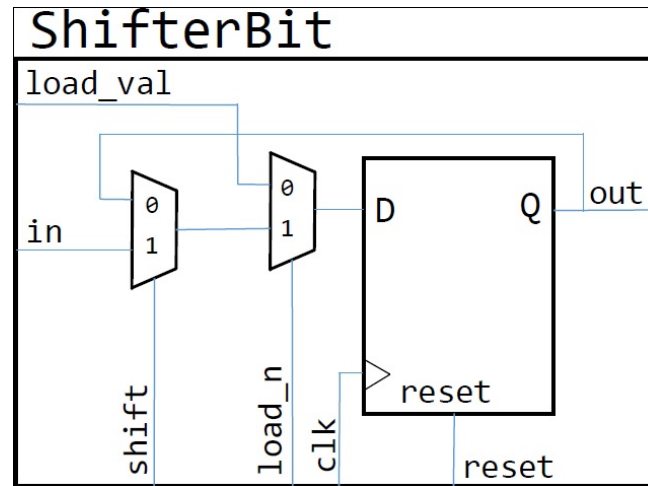
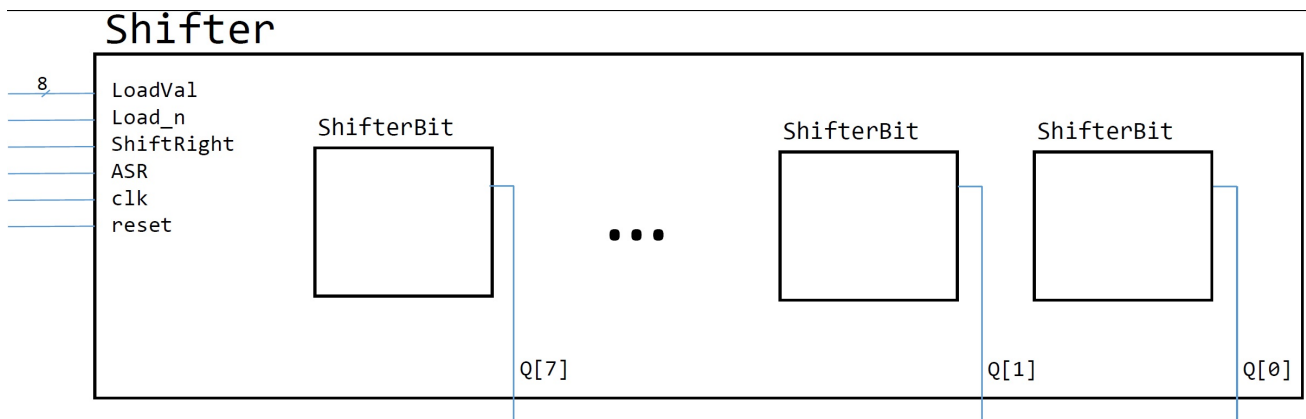

Figure 4.4: Single-bit shift-register
Figure 4.5: 8-bit shift-register of Part III. **None** of internal connections are shown here.
A shift register is a row of flip-flops where each flip-flop moves its contents to the next flip-flop in the row on the rising clock edge. Figure 4.4 shows one bit of this shift register. It contains a positive edge-triggered flip-flop that stores the ShifterBit's current value and two multiplexers that determine the source of the ShifterBit's next value.
To create an 8-bit shift-register, you will need eight instances of the circuit in Figure 4.4. Connect these together to design your 8-bit shift-register with optional arithmetic shift and parallel load as shown in Figure 4.5.
3. The *ShiftRight* input which feeds into the *shift* input of all eight instances of the ShifterBit circuit in Figure 4.4.
For the leftmost ShifterBit, you should design a circuit that will perform sign-extension when the signal *ASR* is high (arithmetic right shift) or load zeros if *ASR* is low (logic right shift). This special circuit is not shown in Figure 4.5.
1. What is the behaviour of the 8-bit shift register shown in Figure 4.5 when *Load\_n* = 1 and *ShiftRight* = 0? Briefly explain in your prelab.
2. Draw a schematic for the 8-bit shift register shown in Figure 4.5 including the necessary connections. Your schematic should contain eight instances of the one-bit shifter (i.e. the ShifterBit) shown in Figure 4.4 and all the wiring required to implement the desired behaviour. Label the signals on your schematic with the same names you will use in your Logisim circuit.
3. In a file called `lab4_part3.circ`, add a subcircuit called `shifter_bit`. Starting with the built-in positive edge-triggered D flip-flop found at *Memory > D Flip Flop*, use this D flip-flop with instances of the `mux2to1` module from Lab 2 to build the one-bit shifter shown in Figure 4.4.